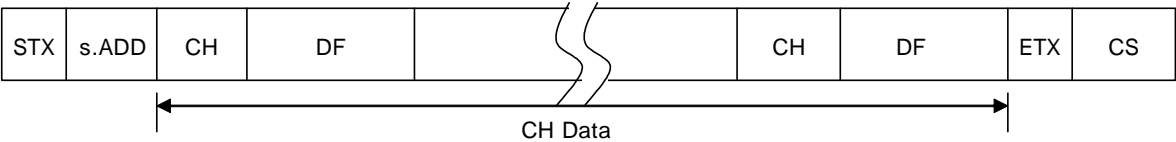

Figure 3.1
Figure 3.1 shows the response frame of CTR0 command. It is used to send all valid channel tag data. The channel data format in the frame is same as 2 byte channel information data field (DF). The length of DF is same as the last byte of the CTR command.